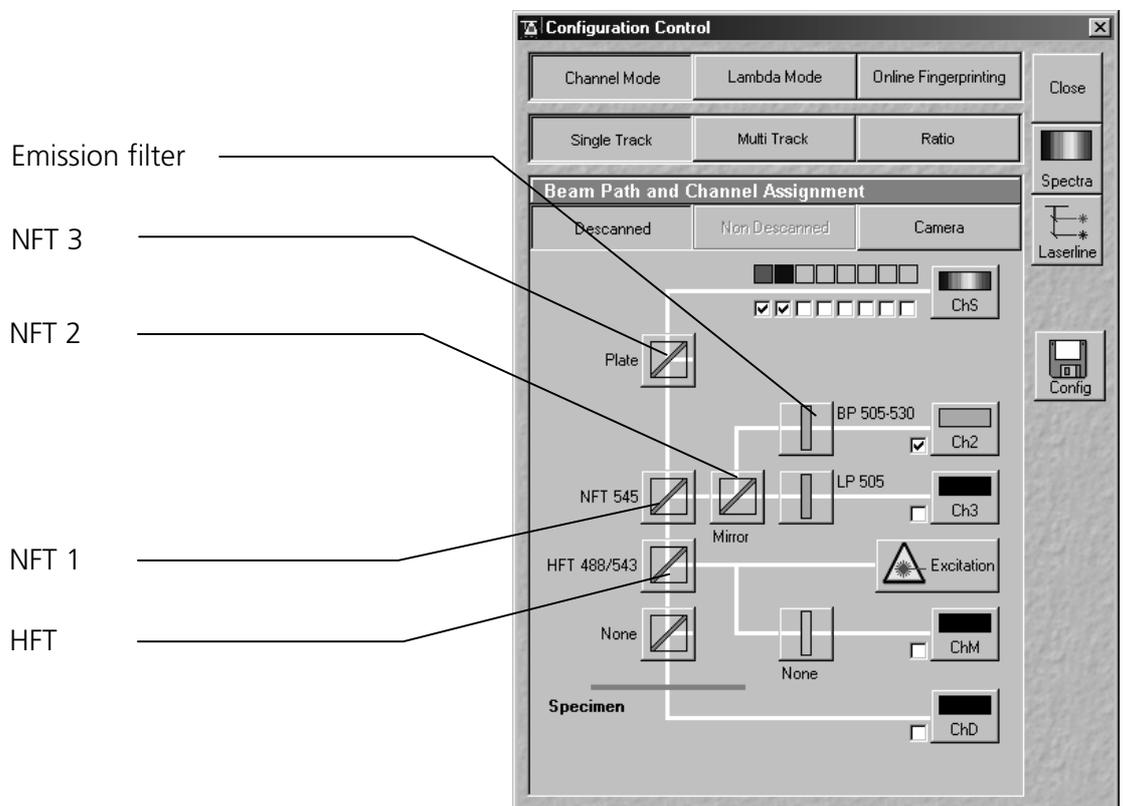

Fig. 5-41 Configuration Control window
The assignment of the numbered emission filters (1-4), NFT secondary dichroic beam splitters (1-3) and HFT main dichroic beam splitters in the **Beam Path and Channel Assignment** panel is shown in the **Configuration Control** window (Fig. 5-41). The numbers of the emission filters correspond to those of the channels lying behind (PMT photomultipliers).
- On the **Beam Path and Channel Assignment** panel, click on the HFT main dichroic beam splitters  (see Fig. 5-41).